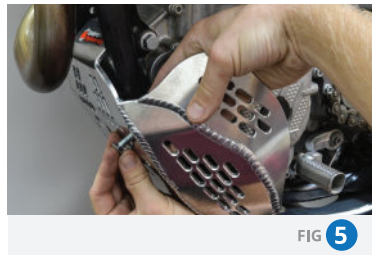

FIG 5
- 5 Using the provided M8x40mm flat head bolts; attach skid plate to the 24-016-03 strap from step 1. [Fig. 5]
- 2 Using the provided M8x40mm flat head bolts; loosely attach skid plate to the 24-016-03 strap. Do not tighten. [Fig. 5]